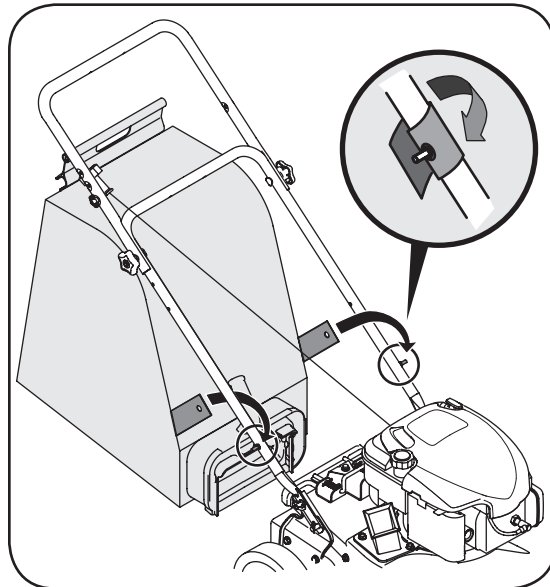

Figure 3-6
4. Place lower straps on the bag over the top of lower handle, hooking them on the studs. See Figure 3-6.